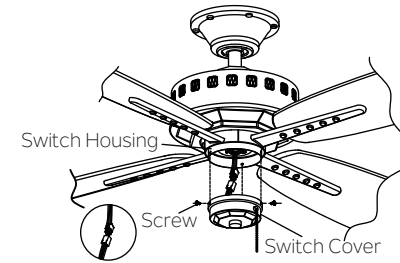

Fig. 19
Step 1. The Square plastic wiring connector from the motor body and switch cover will only fit together one way. Match up the color on the side of each connector, then push them together until the snap engages. (Fig. 19)
Step 2. Tuck the new connections neatly into the switch cover. Align the switch cover with the screws on the edge of the switch housing. Make sure all three screws are tight and secure. (Fig. 19)